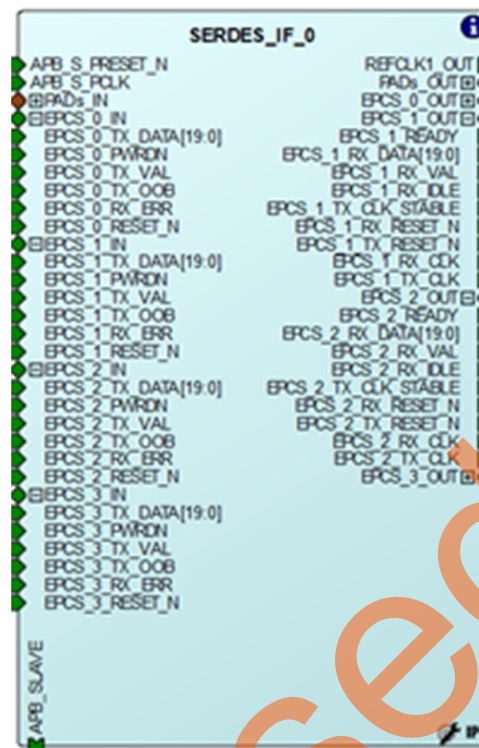

Figure 37 • SERDESIF Component
6. Click **OK**. Figure 37 shows the SERDESIF component